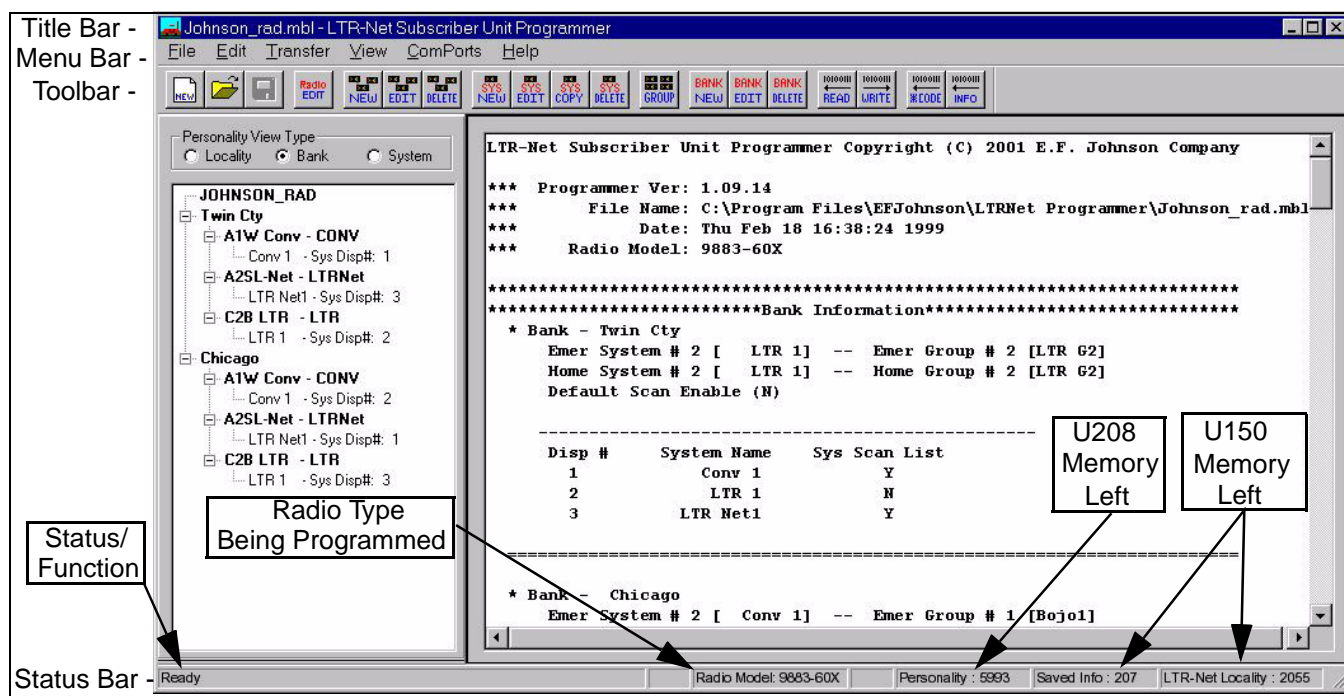

Figure 3-2 Main Window
The title bar is located at the top of the window (see Figure 3-2) and indicates the following:
- Name of the current data file (Johnson_rad.mbl in Figure 3-2).
The menu bar (see Figure 3-2) displays the headings for the menus that are used to select program functions. Quick access to the most frequently used menu functions are provided by toolbar buttons. Refer to Sections 3.5 - 3.10 for descriptions of menu functions.
The toolbar (see Figure 3-2) provides quick access to the most frequently used menu functions. The toolbar can be turned on and off by selecting View > Toolbar in the menu bar. The function of these buttons and section in which the function is described are as follows:
The left pane (Personality View) shown in Figure 3-2 displays the current programming information in a Locality, Bank, or System hierarchy that is selectable by clicking the applicable “View Type” button at the top of the pane. To turn this pane on and off, select View > Personality. Clicking a “+/-” box or double clicking a bold item expands/contracts that branch. This pane always defaults to the on mode when the program is started.
The status bar is located at the bottom of the screen (see Figure 3-2), and it indicates the following information. The status bar can be turned on and off by selecting View > Status Bar in the menu bar.
1. Start the program as described in Section 3.2.3. The main window shown in Figure 3-2 is displayed when the program is started.